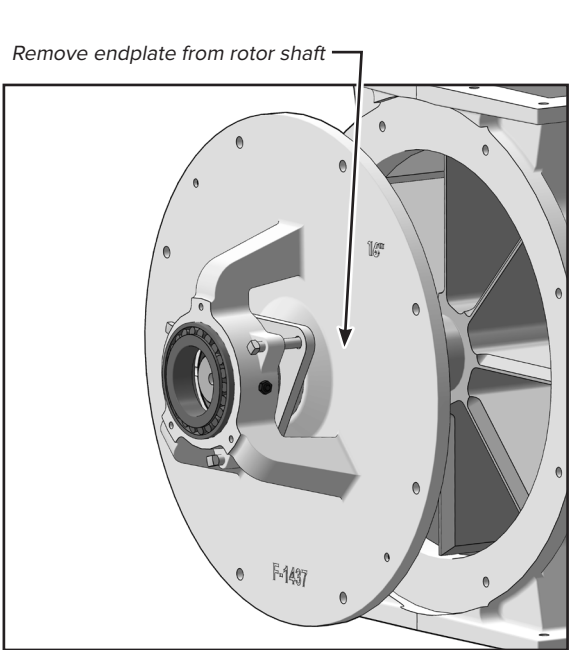

FIGURE 12
- 11. Remove endplate carefully from rotor shaft taking care not to drop the bearing or packing retainer as they are pulled away from the rotor shaft (figure 12).
- 15. Remove endplate carefully from rotor shaft taking care not to drop the bearing or packing retainer as they are pulled away from the rotor shaft (figure 12).